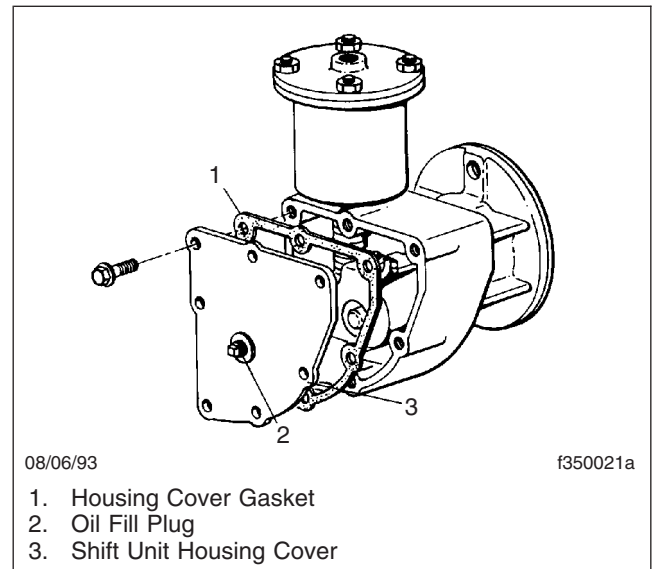

Fig. 8, Two-Speed-Axle Shift Unit
1. Remove the shift unit housing cover. See **Fig. 8**. Drain and discard the old lubricant. Discard the housing cover gasket.
1. Clean the shift unit oil fill plug, and the area surrounding the plug. See **Fig. 8**. Turn the fill plug counterclockwise to remove it.